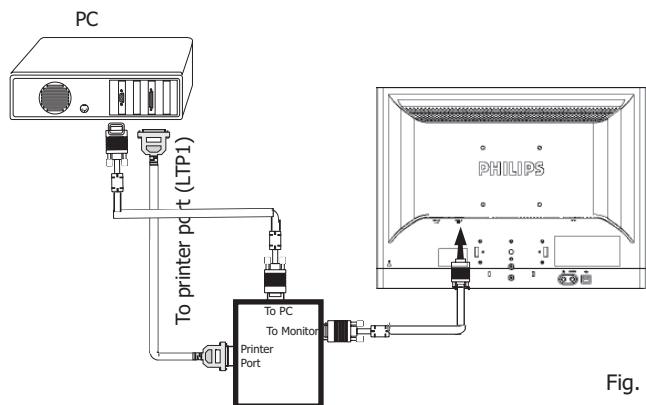

Fig. 11
Step 1: After initialize alignment box, connecting all cables and box as shown in Fig. 11
- Click  icon as shown in Fig. 11 from the tool bar to bring up the Channels "Configuration Setup" windows as shown in Fig. 12.